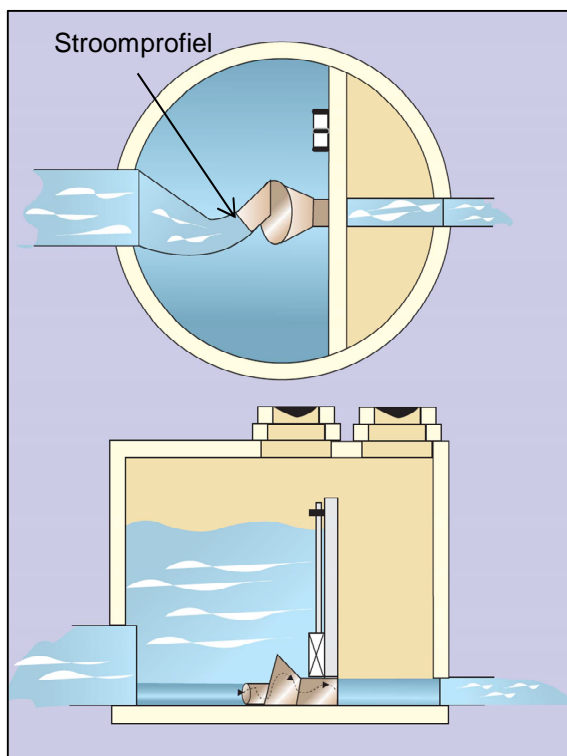

Figure 1; Flow control with overflow wall and bypass penstock valve.
- b. Position the Flow Control in such a way that its function is optimally used. The upstream waste water is to be guided through a channel in such a way that the waste water is adequately directed towards the inlet. This channeling should be constructed without any sharp edges to make sure the dry weather flow is guided towards the inlet. (see also figure 1)